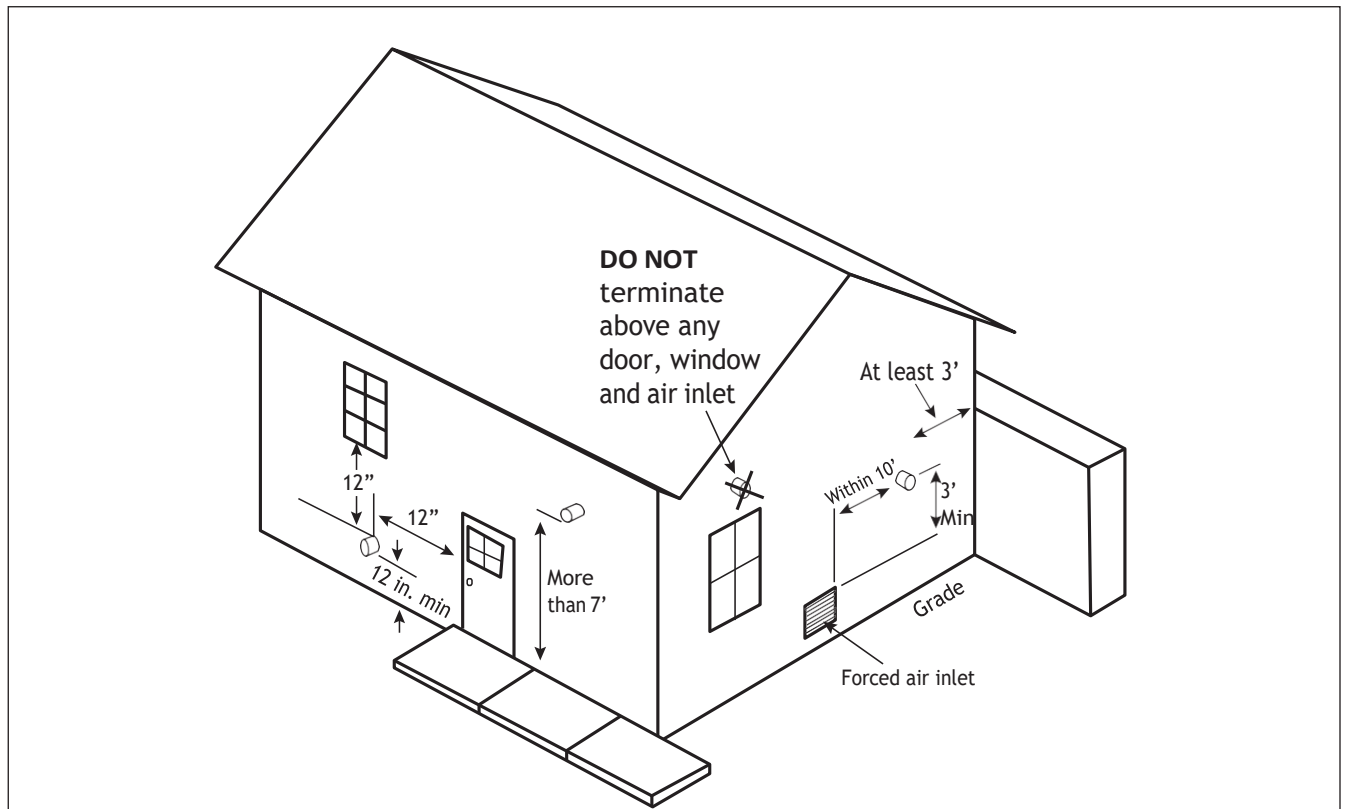

Fig. 2 - Termination Clearances of Direct Vent System
6. The vent termination must also maintain the following clearances, as shown in Fig. 2 on page 13:
6. The vent termination must also maintain the following clearances; as shown in *Fig. 2 on page 13*.